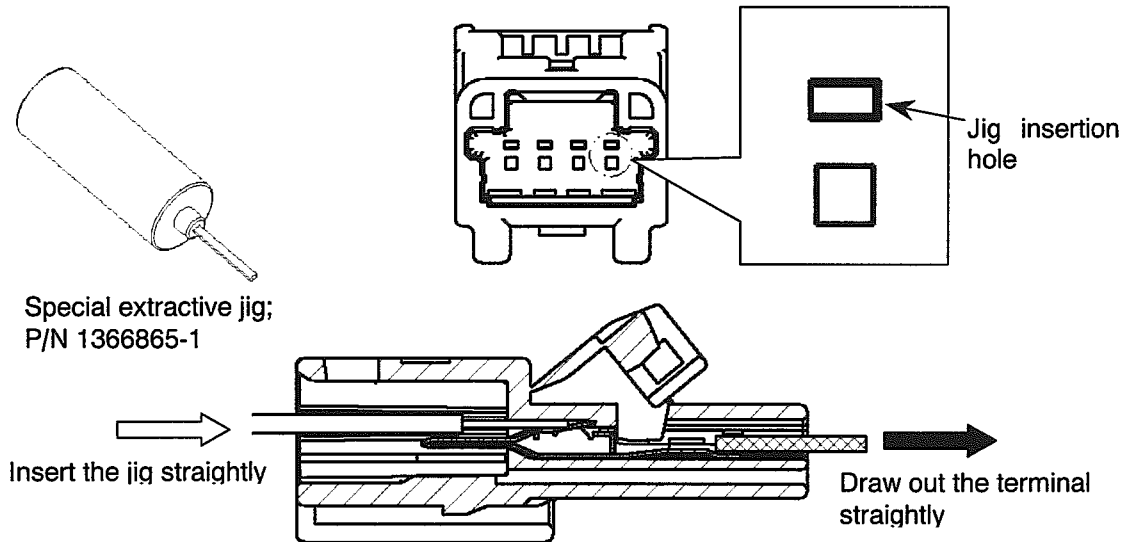

Fig.14
- ① Insert the special extractive jig (Part number:1366865-1) into the proper hole to the end.
- ② Remove the loaded terminal from housing while the crimped wire. See Fig.14
- (1) Check the condition of terminal inserted into housing, the position of taping up wire, and the lock of retainer. If the retainer is in pre-assembled condition, press the retainer for final lock condition.
- (2) Check the defects, deformation, discoloration, damage, rust, crack, deficit, etc. of housing and terminal.
- (3) Insert the proper female housing straight into the male housing with the direction shown on Fig.14. If the operation is finished, you can hear the click sound and can't insert further. Don't apply excess force, if you can't insert into the male housing, and check the items of (1) and (2).